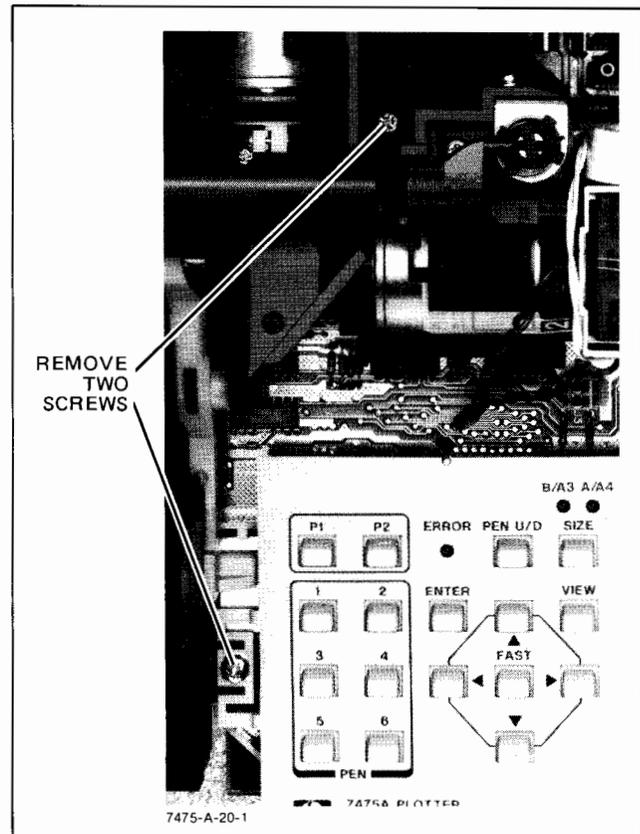

Figure 6-18. Chassis Assembly Removal
- Remove the screw holding the front panel, and remove the panel. See Figure 6-18.
- Remove the recessed screw between the pen solenoid and the pen drive motor. See Figure 6-18.